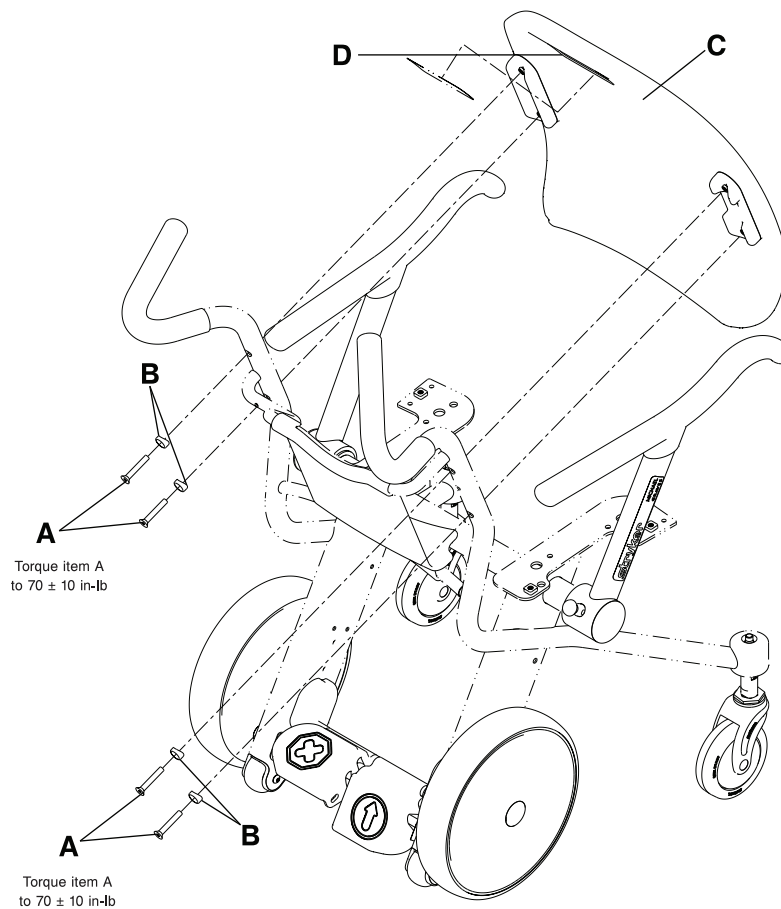

Figure 21: Seat back replacement
2. Using a 3/16" hex wrench, remove the four flat head cap screws (A) and adaptors (B) to remove the seat back (C) from the chair frame. Discard the screws, adaptors, and seat back (Figure 21 on page 38).
3. Using a 3/16" hex wrench, install the four supplied flat head cap screws (A) and adaptors (B) to secure the supplied seat back (C) to the chair frame (Figure 21 on page 38). Using a 3/8" drive torque wrench, torque the screws to 70 ± 10 in-lb.
4. Apply the supplied Stryker label (D) in the appropriate color.